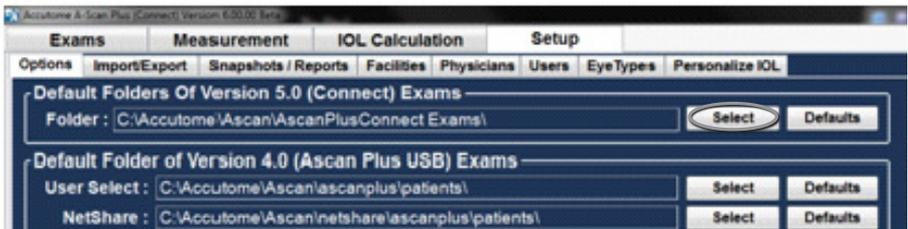

Figure 5.5 - Selecting Main Exam Folder
1. Click on "Select" as shown in Figure 5.5 below.
3. If you would like to restore the default folder for exam data, click on "Defaults" as shown in Figure 5.5.